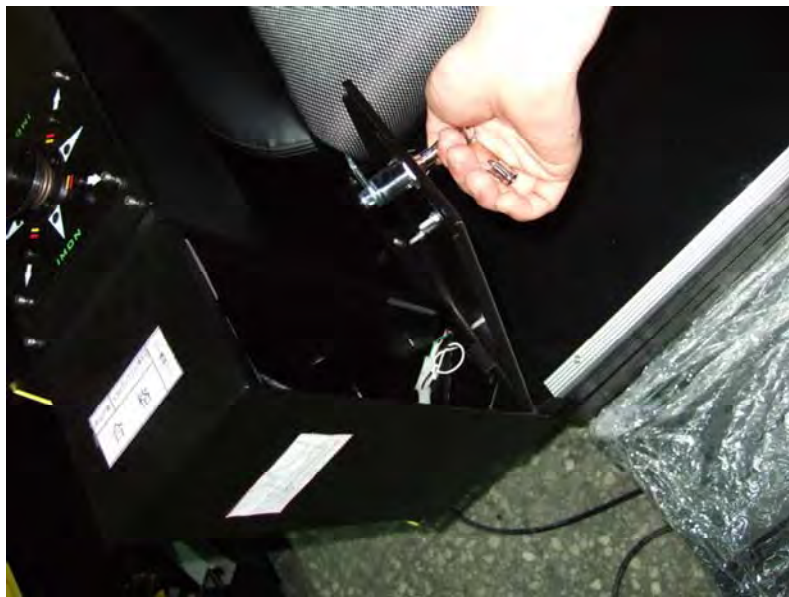
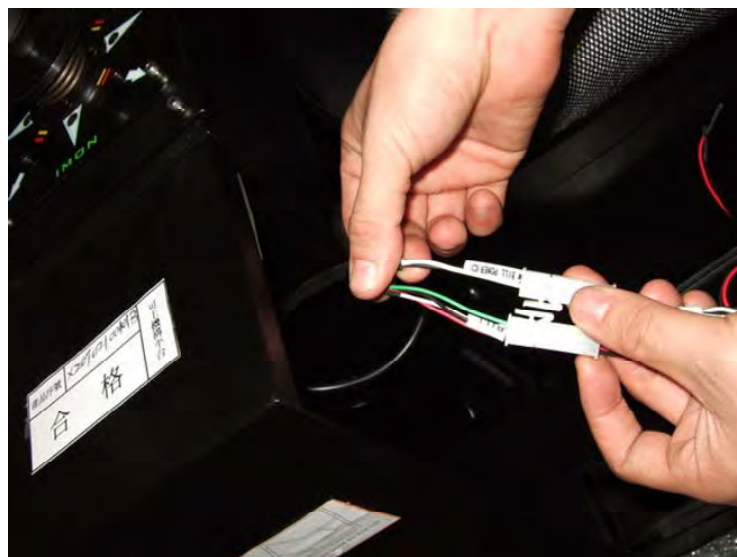

Fig. 3-1 Open Box at the left side of cockpit
Fig. 3-2 Pull out the wires and connectors(BILL and BILL\_POWER)
1. The *IMotion!-iGO* unit has been tested and configured for use with the Coinco MC 2600 series using housing connector (as shown in the below figure, Fig. 3-1, 3-2, 3-3). It is important to note that this system requires a bill acceptor that is 24 volt DC. Please do not modify wire or connectors by yourself. This will cause a serious problem. The definition of the connector is shown as below Fig. 3-2.